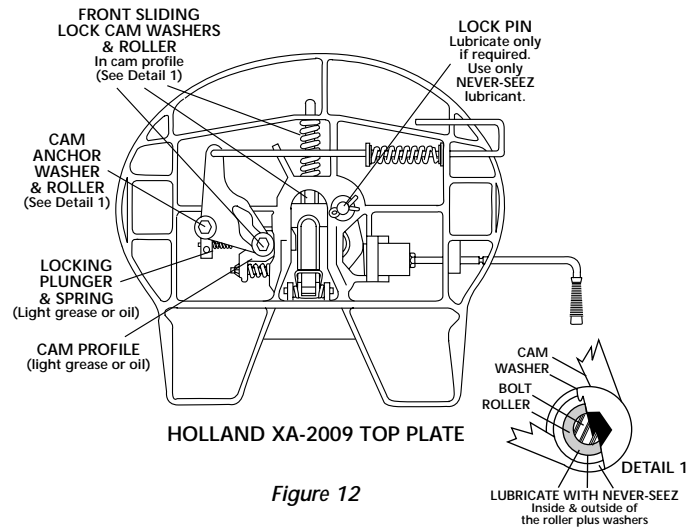

Figure 12
11. Remove dirt, grime, old lubrication, etc. with a thorough steam-cleaning. Relubricate all moving parts, as shown in *Figure 12*. Follow recommended lubrication schedule as detailed in Service Bulletin #9.